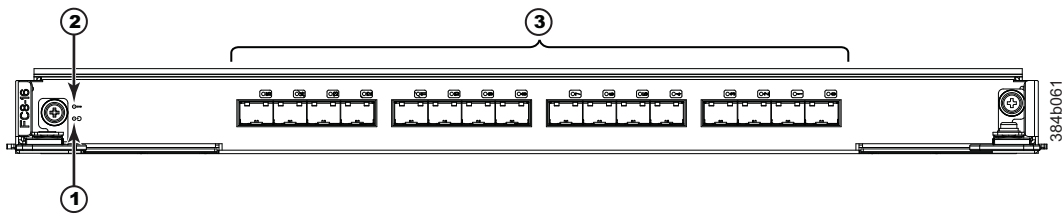

Figure 51. FC8-16 port blade
- Figure 51 shows an FC8-16 port blade